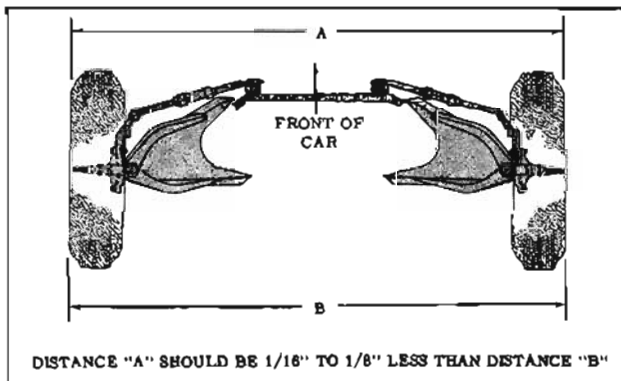

Fig. 9-130 Front Wheel Toe-In
3. TOE-IN (Fig. 9-130)
TOE-IN ADJUSTMENT (Fig. 9-130)
2. With steering wheel set in straight ahead position, turn tie rod adjusting sleeves to obtain the proper toe-in adjustment at curb load. (Fig. 9-130)